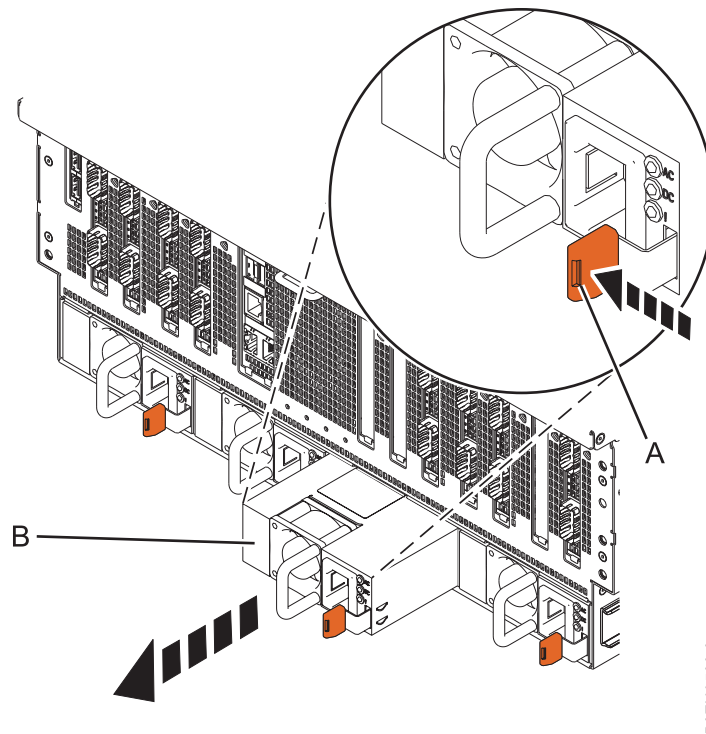

Figure 6. Removing a power supply from the rear of the system chassis
2. Push the terracotta locking-tab (A) in the direction shown in Figure 6.
3. Pull the power supply (B) away from the system, as shown in Figure 6.